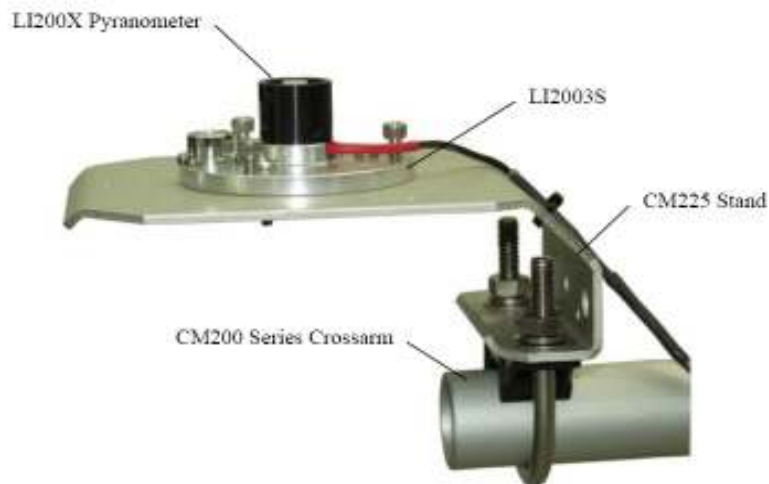

Figure 16: Diagram showing the mounting configuration for the LI200X pyranometer using a CM225 stand (adapted from Campbell 2008).
1. **Mounting the sensor.** Attach a CM225 stand to the end of the cross arm (CM200 Series) using the U-bolts provided so there is a leveled surface for the sensor (Figure 16:). The height of the sensor is not as critical as the orientation (either facing north or south), but should be mounted near the top of the tower where it has the best access to incoming light. Attach the leveling base (LI2003S) to the CM225 stand and mount the sensor on it by tightening the small screw on the side with the included Allen wrench.